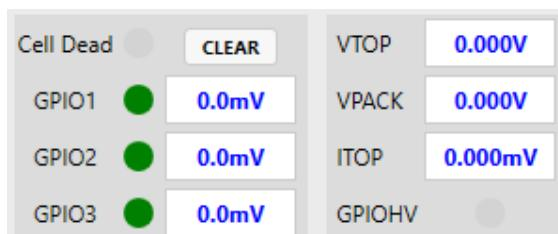

Figure 41: GPIO and VTOP Status Monitor
9. Monitor the GPIO and V_{TOP} statuses (see Figure 41).